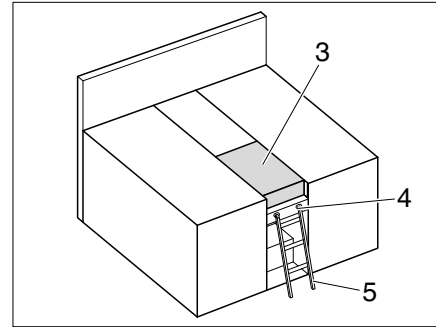

Fig. 179 Double bed
- Lay on the additional cushion (Fig. 179,2).
- Remove additional padding (Fig. 179,3).
- Slide in the pull-out (Fig. 179,1) and attach the retaining strap (Fig. 179,2).
Always use the access ladder (Fig. 179,4) provided as standard to reach the top bed.
- Attach the access ladder (Fig. 179,4) with the rails to the holder (Fig. 179,3) on the panel.